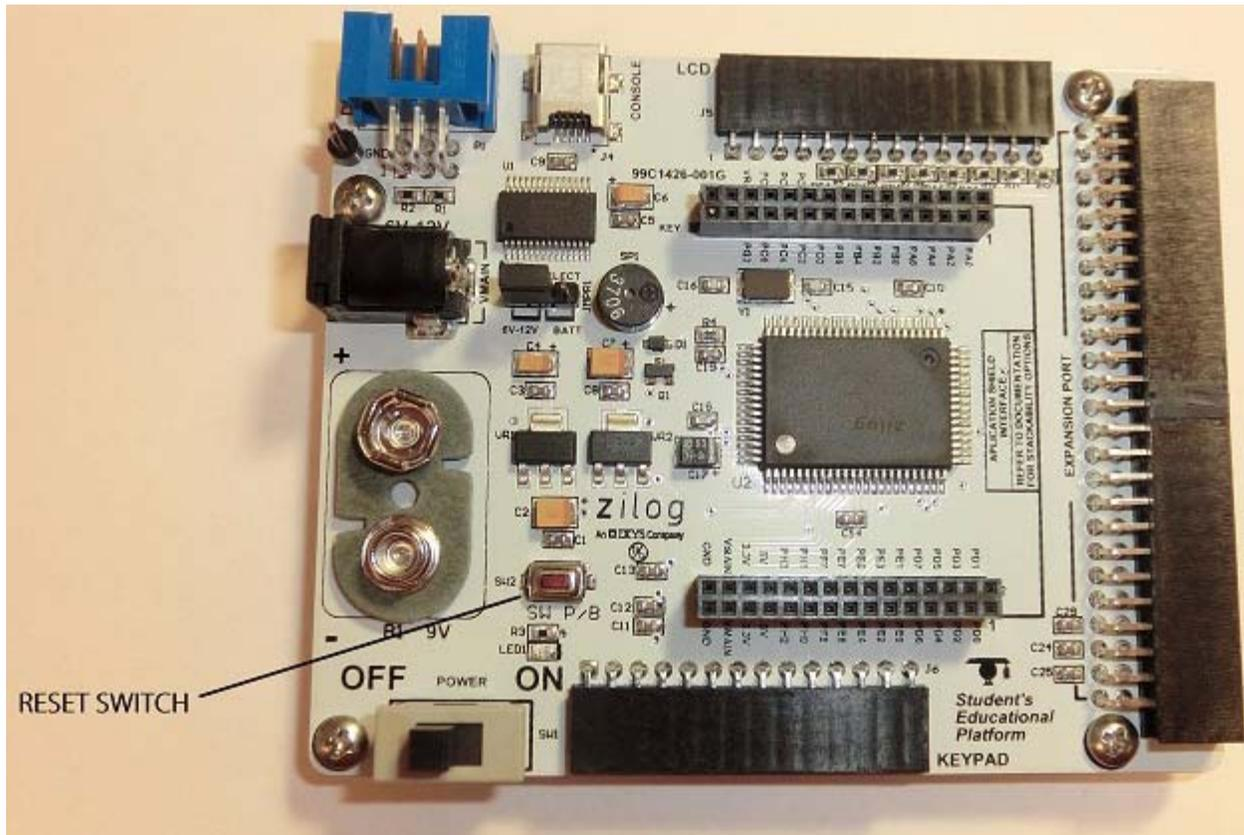

Figure 10. The Location of the ZSED Platform's RESET Switch
5. Press the ZSED Platform's RESET switch, indicated in Figure 10.